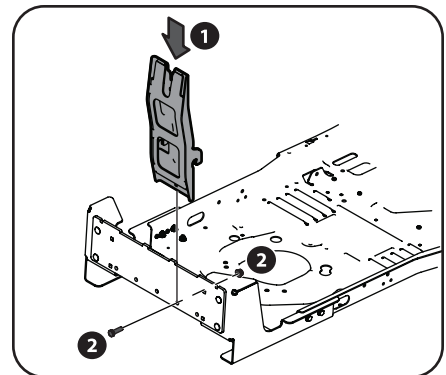

Figure 4-4
3. Install the upright support bracket onto the mounting assembly on the tractor by hooking it over the mounting assembly between the two tabs as indicated in (1) Figure 4-4.
4. Secure the upright support bracket to the mounting assembly with a (710-0376) hex bolt and (712-04063) flange lock nut from hardware pack (689-00567). See (2) Figure 4-4.